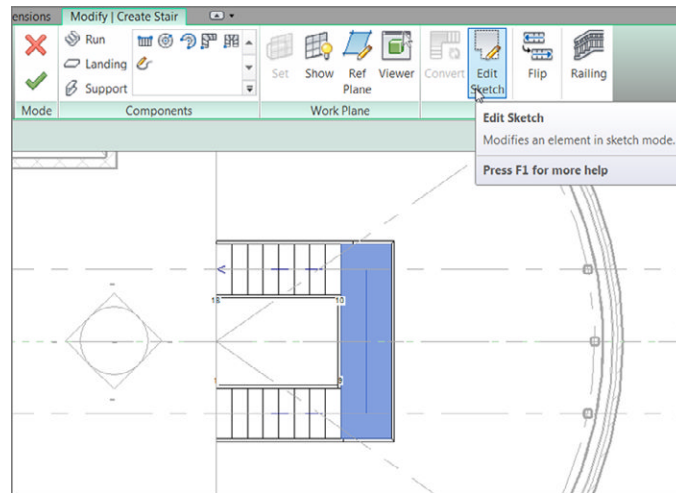

FIGURE 10.6: The Edit Sketch button
4. With the landing still selected, click the Edit Sketch button, as shown in Figure 10.6.